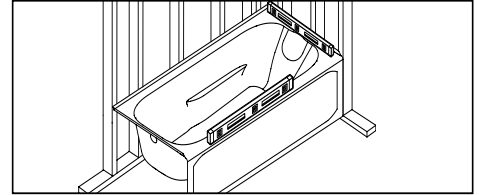

FIGURE 2. Check to assure bathtub is level.
- a. Trial fit bathtub in prepared alcove. With bathtub sitting flat on floor, check with level on top of bathtub (Fig 2).